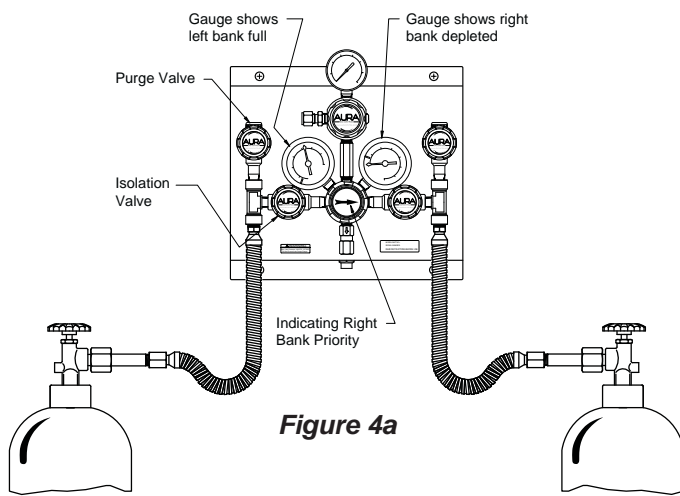

Figure 4a
6. Isolate the side that has depleted by closing it's inlet isolation valve (if equipped) as illustrated in figure 4a.